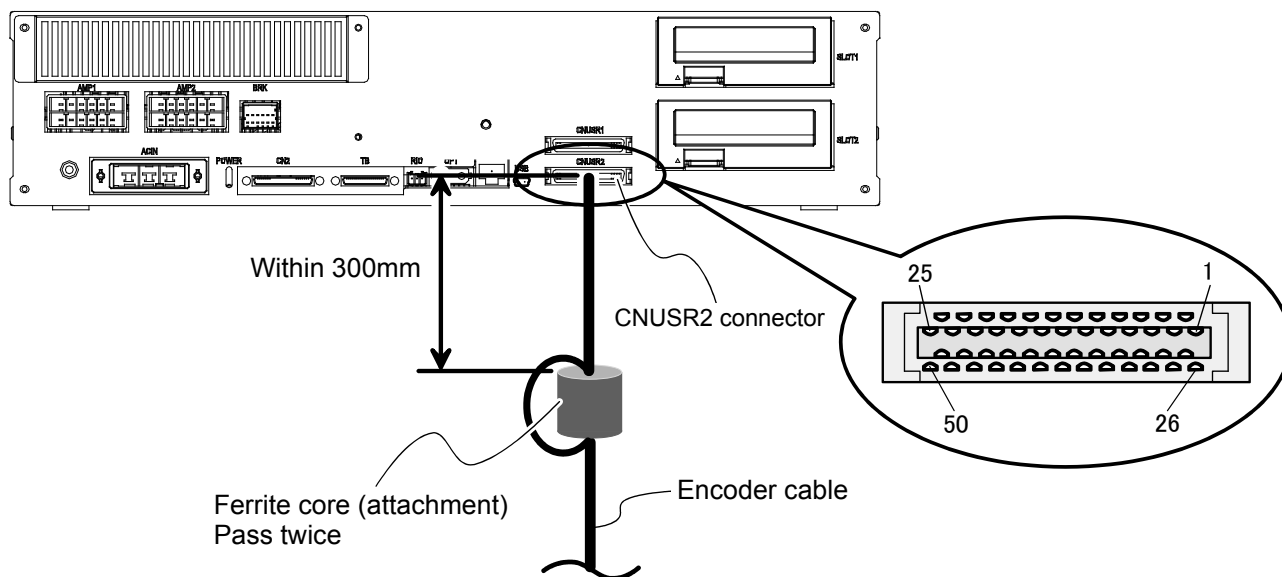

Figure 10-7 Installation of encoder cable (CR751-D series)
*CR751-D series: "Figure 10-7 Installation of encoder cable (CR751-D series) "